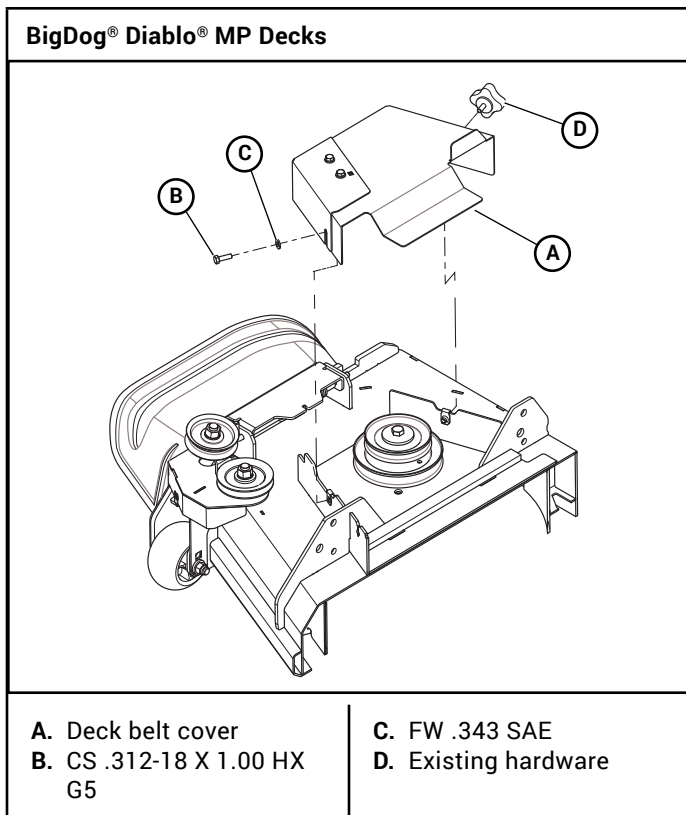
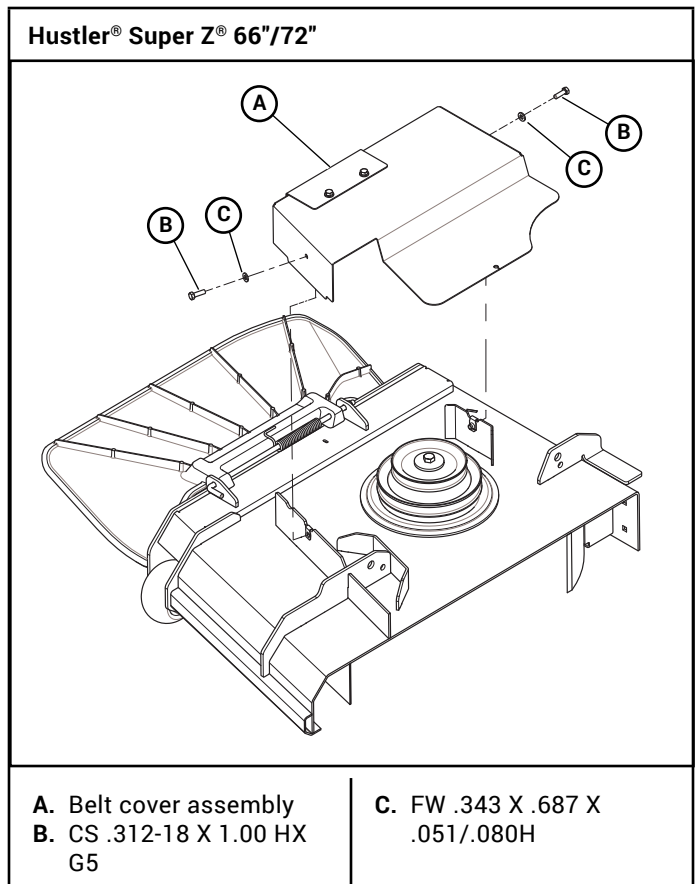
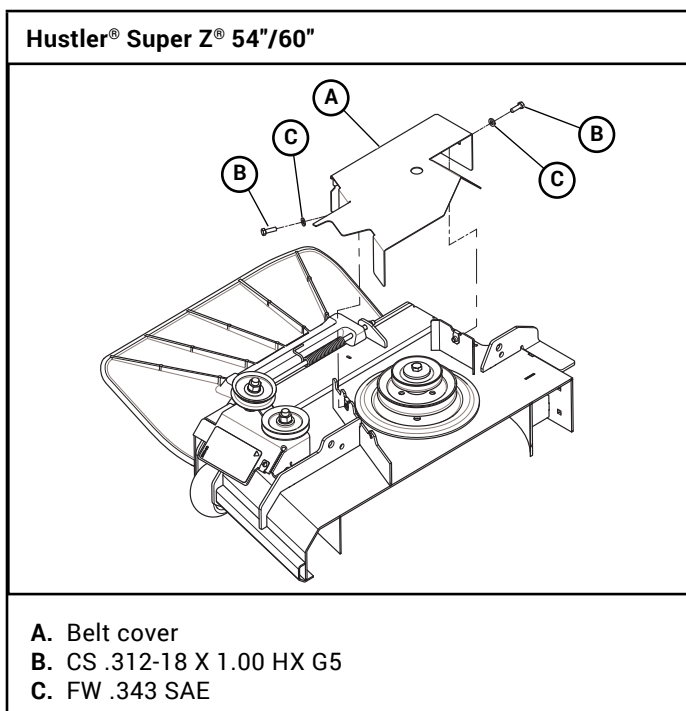

Figure 4-19
Figure 4-21
Figure 4-20
10. Attach the deck belt cover to the deck. Figure 4-19, Figure 4-20, Figure 4-21